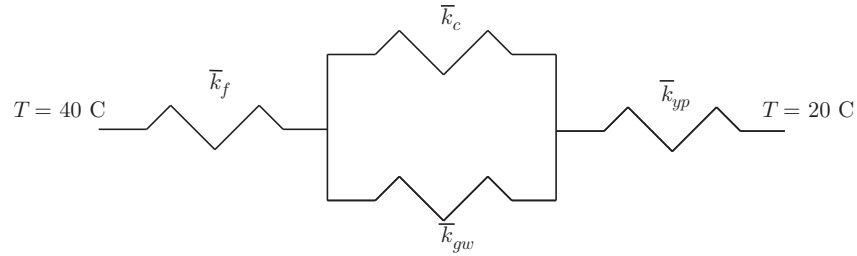

Figure 2: Thermal circuit for wall unit.
1. Use a thermal circuit analysis to determine the interior temperatures between the wood faces and the interior elements; see Fig. 2. The effective conductivities in the circuit are given by $\bar{k}_{(.)} = k_{(.)}A_{(.)}/t_{(.)}$, while assuming a unit thickness into the page. For example, $\bar{k}_c = 0.76 \cdot (0.5 \cdot 1)/0.075 = 5.06\bar{6}$ [W/K].